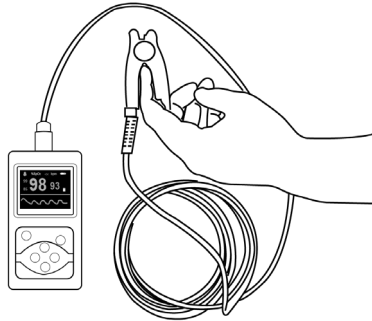

Figure 6
- 🔔 The finger should be placed correctly (see Attached figure 6), as improper installation or improper contact position for sensor will influence the measurement.
- A. Put the finger into the probe. Refer to Figure 6.
(Actual probe may be different with the probe as Figure 6, please accept the actual probe with the device)